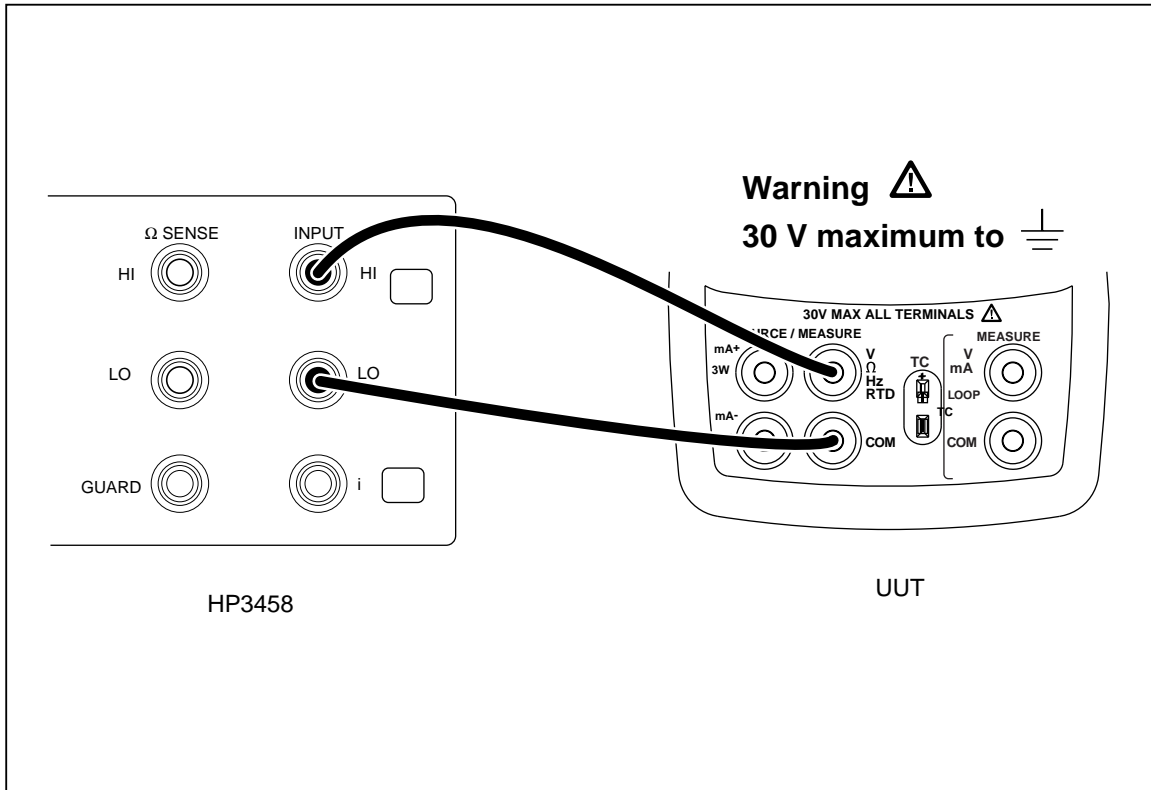

Figure 7. Lower Display Frequency Source Test Connections
3. Configure the HP 3458A to measure frequency; then make the connections shown in Figure 7.
3. Connect the UUT to the HP 3458A as shown in Figure 7.